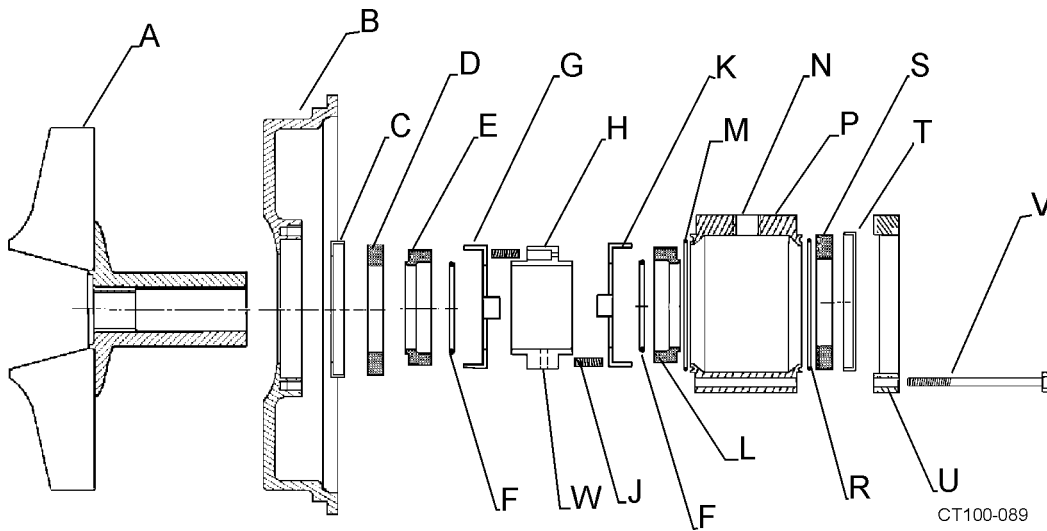

Figure 37 - Type 4 Seal Components
Table 11: Callouts for Figure 37
The Type 4 Seal is essentially two Type 1 seals assembled back to back in a chamber which bolts to the backplate in place of the stationary seat retainer. Except for the additional components, (e.g. chamber, seals) Type 1 and Type 4 components are interchangeable. (Figure 37).
4. Place impeller assembly **Face Down** (on impeller vanes) and remove hex head screws (Figure 37, item V) from back of seal assembly.
5. Carefully lift off seat retainer, O-ring, L-gasket, stationary seal and flush housing (Figure 37, items P, R, T, S and U).
6. Loosen (2) set screws in the spring retainer. (Figure 37, items W and H).
- Rotary Seal (Figure 37, item L)
- O-ring (Figure 37, item M)
- Washer (Figure 37, item K)
- Spring Retainer (Figure 37, item H)
- Springs (six total, 3 up and 3 down) (Figure 37, item J)
- Washer (Figure 37, item G)
10. Remove stationary seal and L-gasket from backplate. (Figure 37, items D and C).